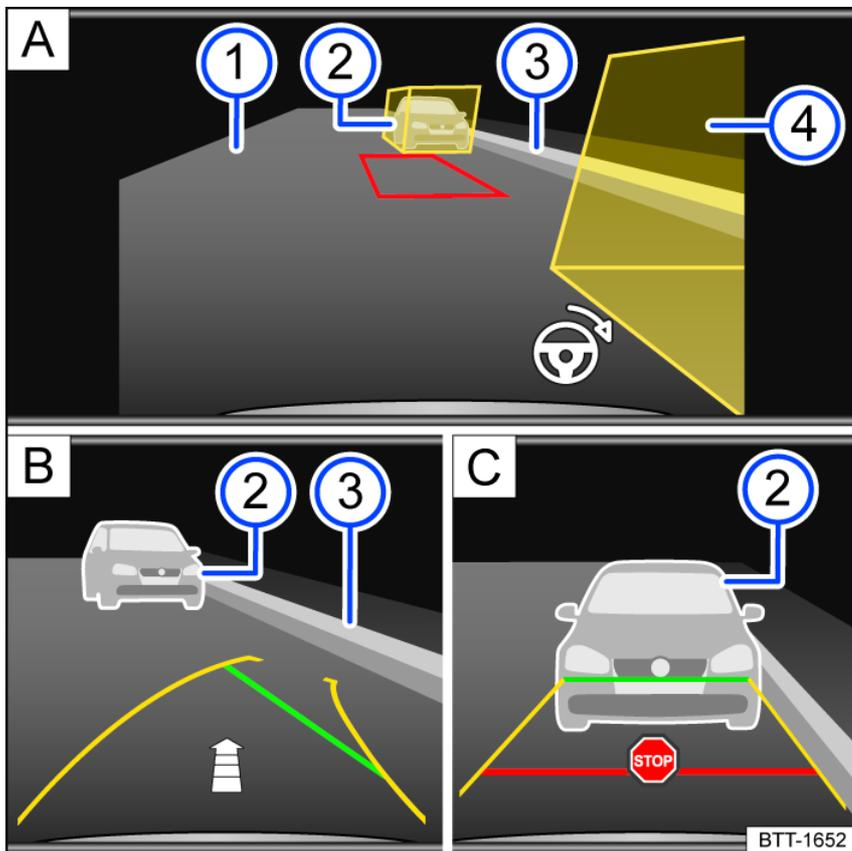

Fig. 139 Screen display in the Infotainment system: Rear View Camera system.
Key for *fig. 139*:
- Position the vehicle parallel to the parking row approximately 3.3 ft (1 meter) away. The yellow assisting boxes must cover the obstacles *fig. 139***A** **2** or **4**. The area in between must be free of obstacles.
- Select the reverse gear. A red frame represents the target position of your vehicle *fig. 139***A**.
- Turn the steering wheel until the red frame moves between the assisting boxes and becomes green *fig. 139***A**. Hold the steering wheel in this position while driving in reverse.
- Drive slowly in reverse until the **STOP** stop symbol appears or the green line aligns with the side boundary of the parking space *fig. 139***C**. An *fig. 139***B** arrow indicates the remaining distance to be driven based on the number of displayed segments.